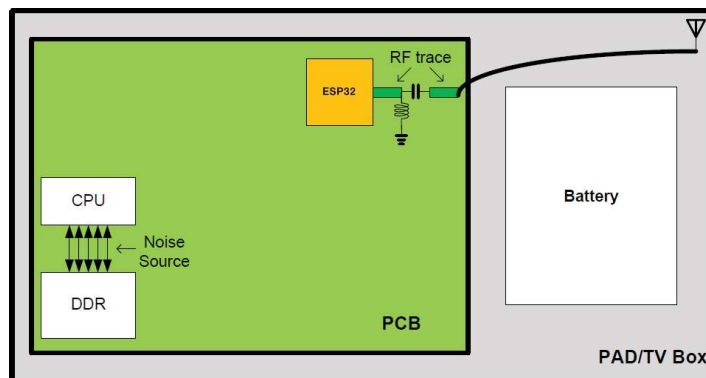

Figure 15: PAD/TV Box Layout
- As can be seen in Figure 15, ESP32 should be placed at the edge of the PCB and away from the CPU and DDR, the main noise sources. The distance between the chip and the noise sources decreases the interference and reduces the coupling noise.